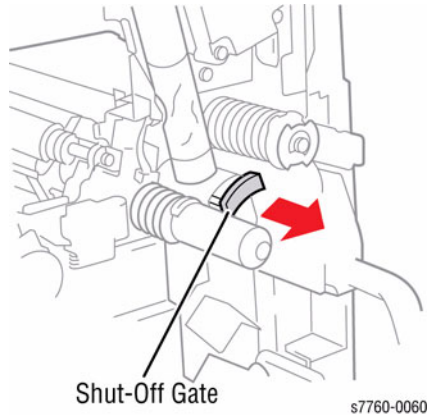

Figure 2 Closing Toner Outlet
- c. Pull the Shut-Off Gate of each Toner Cartridge toward you approximately 3/4" (or 20 mm) to shut off the toner supply for each toner tube (Figure 2).